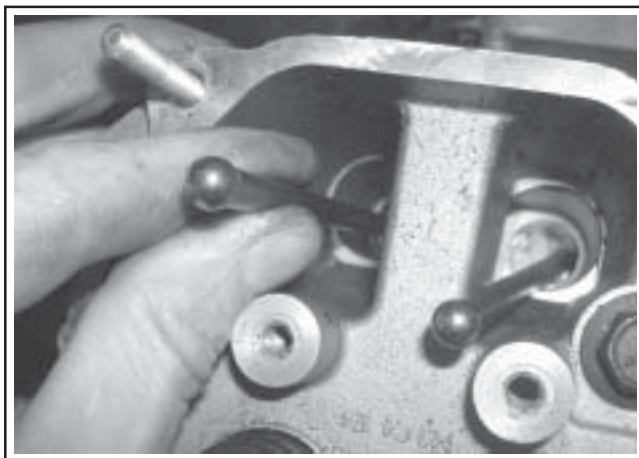

Figure 11-41. Install Push Rods in Their Original Position.
1. Note the mark or tag identifying the push rod as either intake or exhaust and cylinder #1 or #2. Dip the ends of the push rods in engine oil and install, making sure that each push rod ball seats in its hydraulic lifter socket. See Figure 11-41.